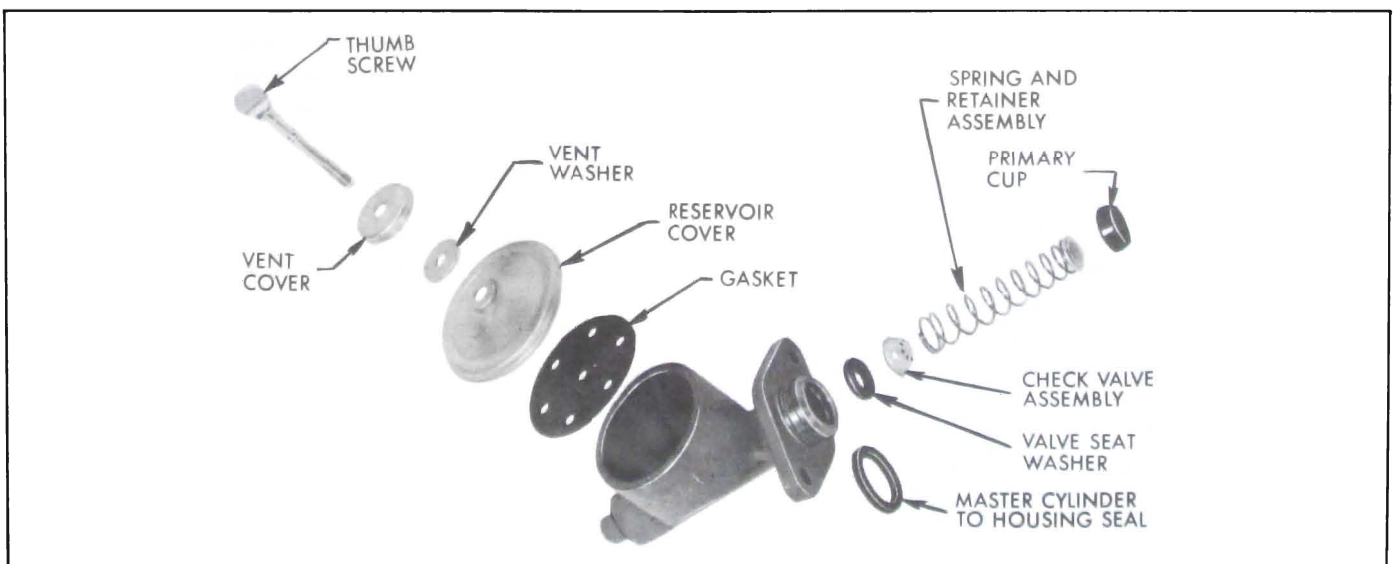

Figure 9-21—Internal Parts of Master Cylinder
3. Wipe master cylinder bore with a coat of clean brake fluid. Into bore, place valve seat washer. See Figure 9-21. Press check valve in open end of spring and retainer; place assembly in bore with check valve down. Dip primary cup in clean brake fluid and place in bore with lip down.